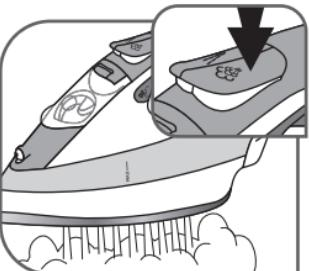
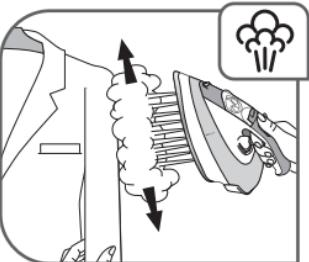

Fig.12
Fig.15
- For the TURBO function, set the thermostat control to “MAX” or “***”. Press the TURBO button from time to time – fig.12.
- Hang the garment on a hanger and hold the fabric slightly taut with one hand. The steam is very hot, so you should always do this with the garment on a hanger – never iron clothes which someone is wearing – fig.15.
- Press the turbo button in pulses – fig.12 and move the iron from the top to the bottom – fig.15.